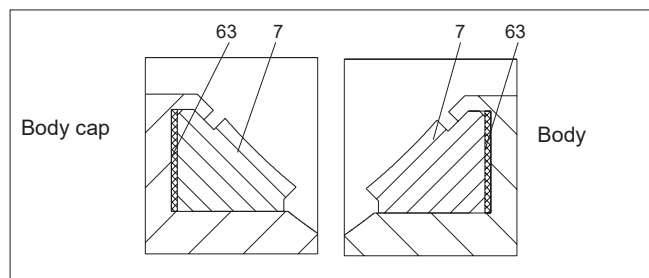

Fig. 22 K seat (2")
- Place the back seal (63) into the body counterbore. Then place the seat (7) into the body counterbore, see Fig. 22.
- Place the back seal (63) in the ball seat (7); see Fig. 22. Place the seat in the body cap (2). Lock the seat with a special tool. See Section 4.9.4 for instructions.